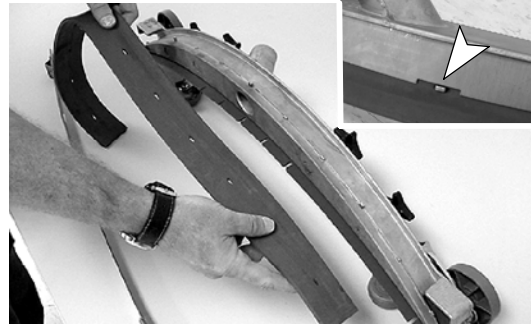

FIG. 60
3. Rotate the rear blade to a new wiping edge and reinstall the band. Make sure the notched edge of the band is facing downward (Figure 60).